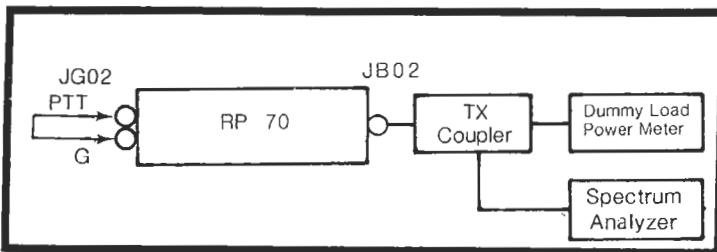

FIGURE 9. MODIFIED TX TEST SETUP
20. Turn the power supply off and connect the measurement equipment as shown in Figure 9.